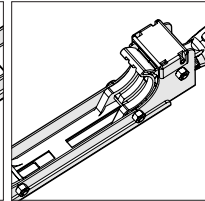

Fig. 8
- Turn the adjustment screw **(Fig. 8)** clockwise to increase the clamping pressure. Turn the screw counter-clockwise to decrease the clamping pressure.